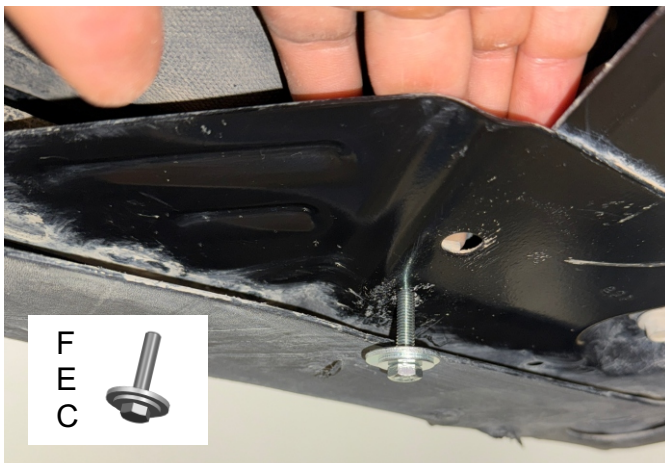

Fig. 3
3. Lightly insert supplied M6x30 bolts with M6 and M8 washers (items C, E, F) into M6 insert nuts from step 2 as shown in fig 3.